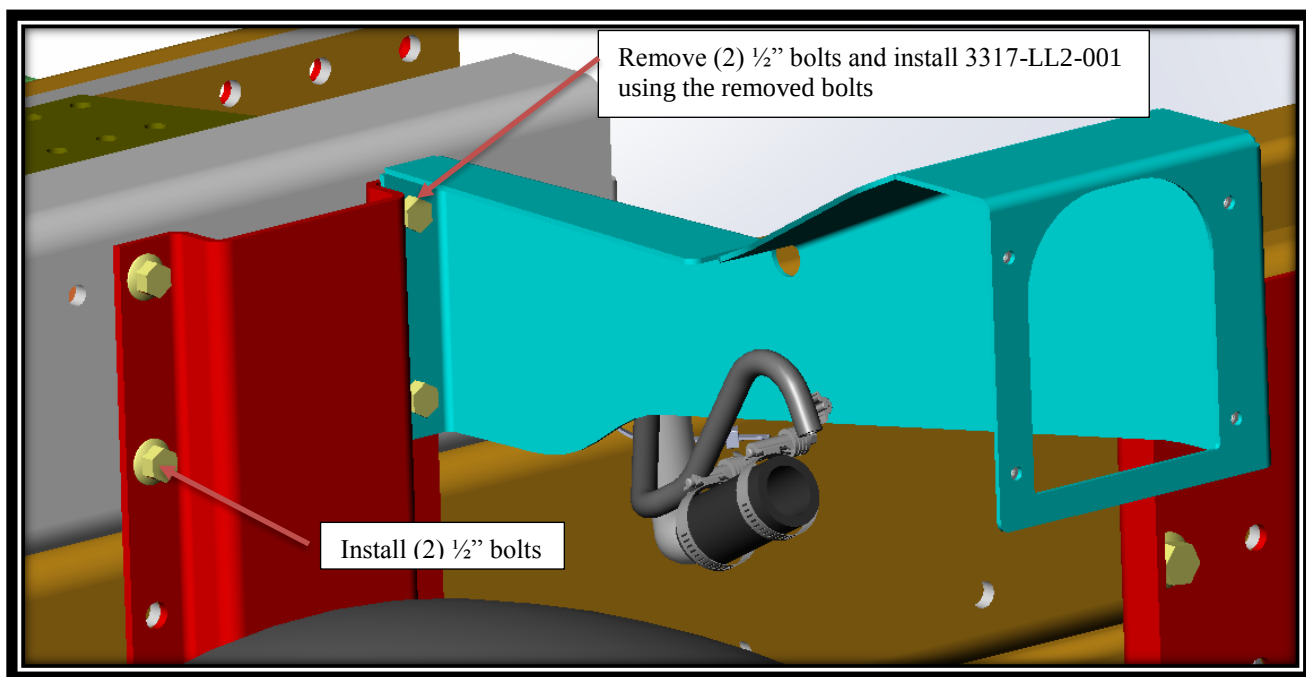

FIG. 7-1
10. Reinstall (2) ½" bolts that were removed in step #6 and torque to 74 lbf-ft. Refer to FIG 7-1
11. Remove (2) ½" bolts and hardware from opposite side of frame tie and install new DEF support (3317-LL2-001) using (2) ½" bolts and hardware. Torque to 74 lbf-ft. Refer to FIG 7-1.